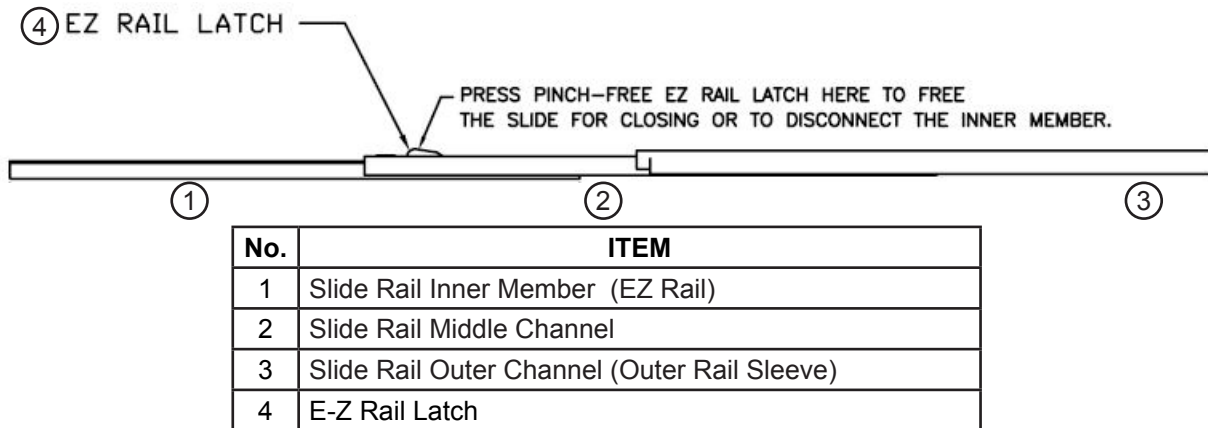
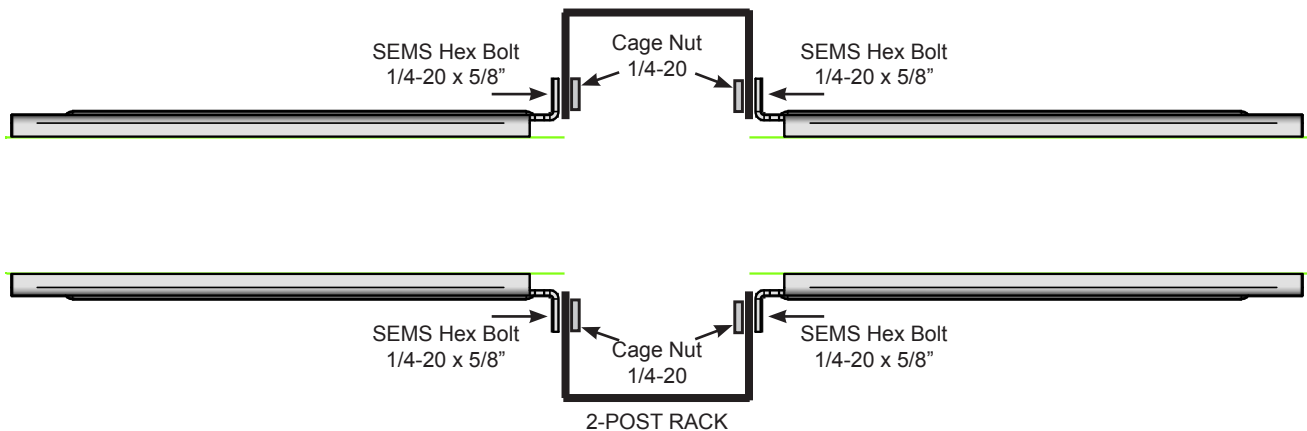
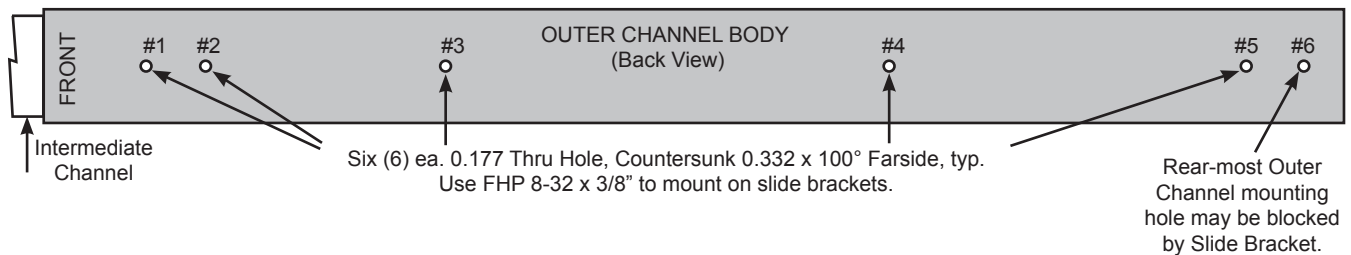

FIGURE 1 SLIDE ASSEMBLY
FIGURE 4: 2-POST SLIDE BRACKET INSTALLATION (USING CAGE NUTS. OTHER FASTENERS SIMILAR.)
FIGURE 5: SLIDE OUTER CHANNEL MOUNTING HOLE LOCATIONS
1. Remove the EZ Rail (Slide Rail Inner Member), Figure 1-(1), from the Slide Rail Middle Channel, Figure 1-(2), by pressing the E-Z Rail Latch, Figure 1-(4), and sliding the EZ Rail out of the Middle Channel. Repeat for the second Slide Assembly.
3. Each 2-Post Mounting bracket has four (4) rack mounting bolt holes (Figure 1). Slip the cage nut over the top (first) rack rail mounting hole. Repeat for the rail holes corresponding to the 2nd, 3rd, and 4th bracket bolt holes.
4. Attach the 2-Post Slide Bracket on the 2-Post Rack using four (4) PHP, (Pan Head Phillips) 8-32 x 1/4 in. screws (or appropriate fasteners).
5. Repeat Steps 2-3 for the remaining three mounting brackets (Figure 4).
NOTE: There are six (6) mounting holes available for use. The first two holes, Figure 5 - #1 and #2, are accessible through openings in the Inner Channel when the Inner Channel is fully extended. The Rear-most mounting hole (Figure 5 - #6) may be blocked by the 2-Post mounting bracket.
2. Bolt the Outer Channel Body (370ez-27-11), Figure 1-(3) to the Slide Mount Brackets. (4 places) (See Figure 5) Recommend using holes #1, #2, #4, and #5 in Figure 5.